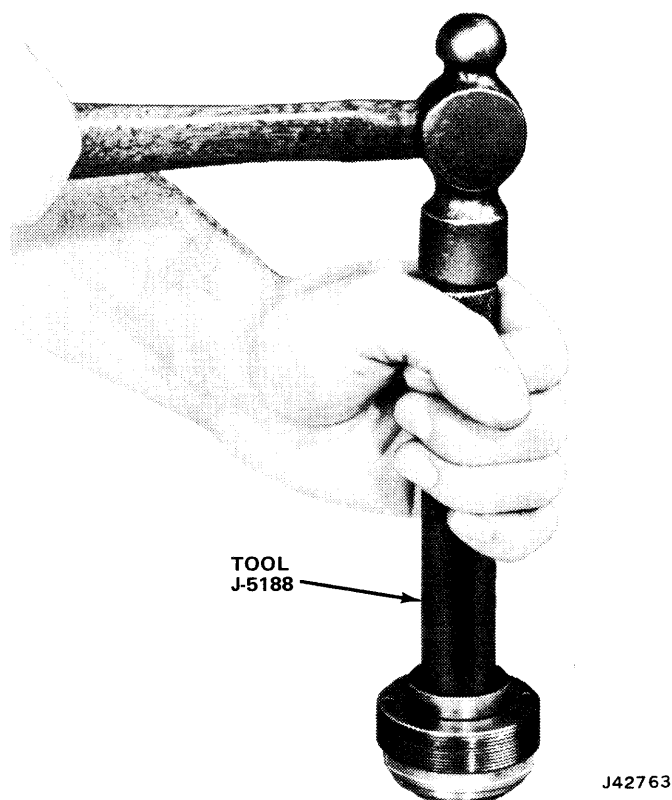

Fig. 11-91 Installing Stub Shaft Seal
(3) Install stub shaft oil seal using Tool J-5188 (fig. 11-91). Install seal far enough to provide clearance for dust seal and retaining ring.
(4) Install dust seal so rubber seal surface faces outward.
(5) Install retaining ring. Be sure ring is properly seated.
(6) Lubricate adjuster plug O-ring with petroleum jelly and install O-ring on adjuster plug.
(7) Assemble and install large O.D. thrust bearing race, wormshaft upper thrust bearing, small O.D. thrust bearing race, and thrust bearing retainer on adjuster plug. Do not flatten retainer dimples. Retainer must rotate freely after assembly. Radial location of dimples is not important.